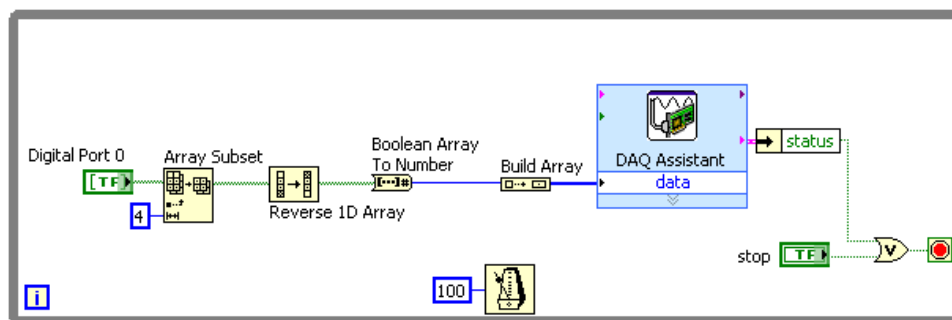

Figure 10.21
1. Open the Digital Example VI, located in the C:\Exercises\LabVIEW Basics I directory, and modify the block diagram as shown in Figure 10.21.